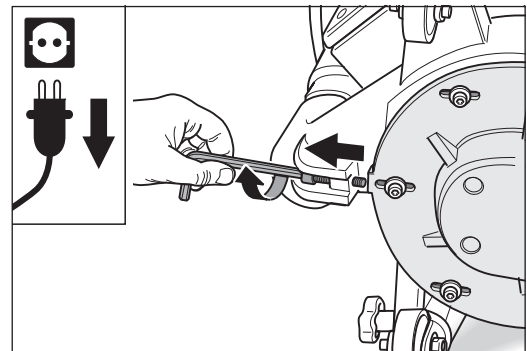

Fig. 56 Unscrew the belt-tensioning screw all the way back.
- 4 To relieve the V-belt tension, use the proper Allen key to unscrew the belt-tensioning screw all the way out until this screw disappears on the front side in the threaded hole of the fan housing (Fig. 56).